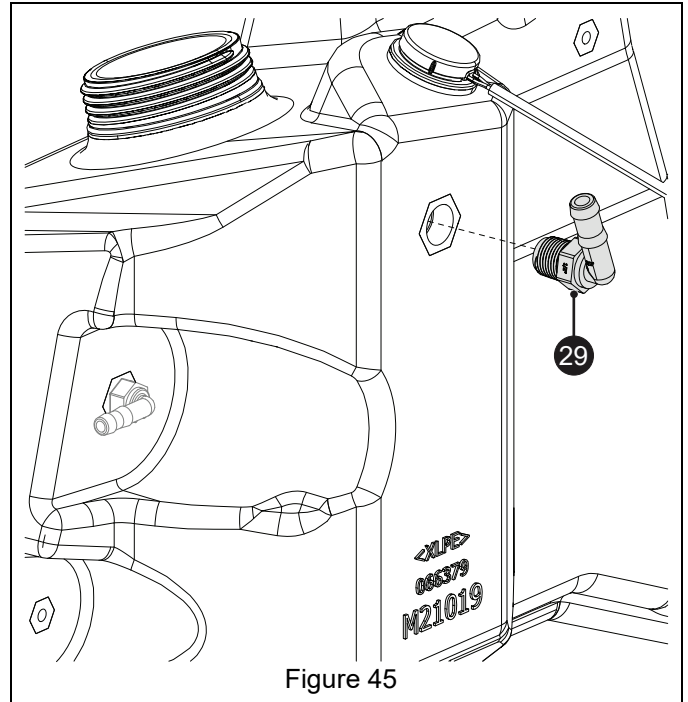

Figure 45
69. Wrap threads of one 1/2" x 1/2" 90-degree hose fitting (item 29) with teflon pipe tape and install in top rear of rear brine tank. See Figure 45.